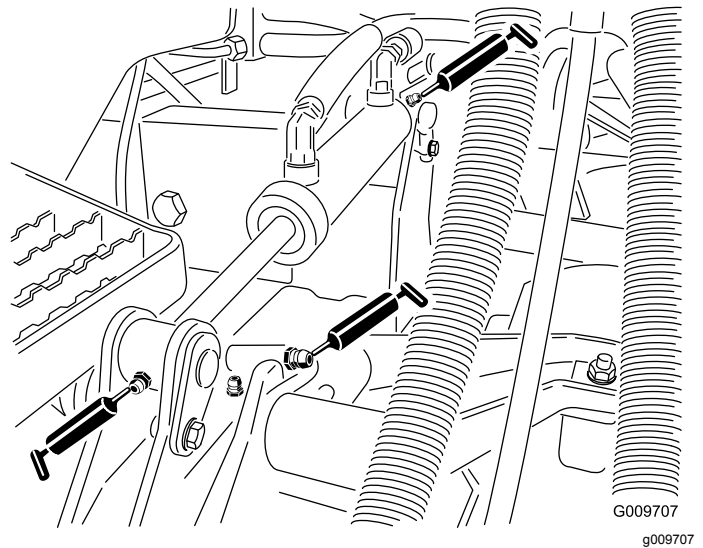

Figure 61
- Lift-arm bushings (1 per deck) as shown in Figure 61
- Lift-cylinder bushings (2 per deck) as shown in Figure 61